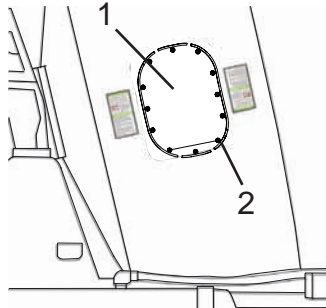

Figure 111
3. If the drum hatch is the oval hatch, remove the 12 drum hatch bolts (Figure 111, Item 1), and remove the drum hatch (Figure 111, Item 2).
8. For the oval hatch only: Install the drum hatch (Figure 111, Item 1). Loosely install 12 drum hatch bolts (Figure 111, Item 2).